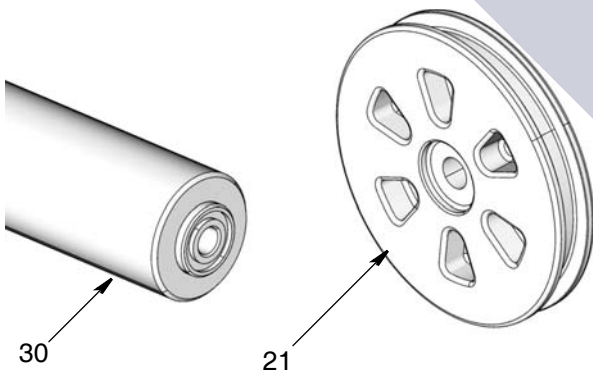

Fig. 28
2. To assemble the new air piston, push the air piston (21) over the end of the displacement rod (30).
**NOTE:** The counter bored side of the piston (21) mates with the displacement rod (30) as shown in Fig. 28.